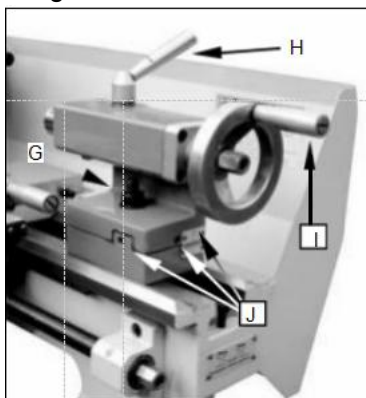

Figure. 12
10. Vis d'amplification Tailstock (G, Figure. 12)
II. Tailstock Quill Clamping Lever (H, Figure. 12)
I2. Tailstock Quill Traverse Handwheel (I, Figure. 12)